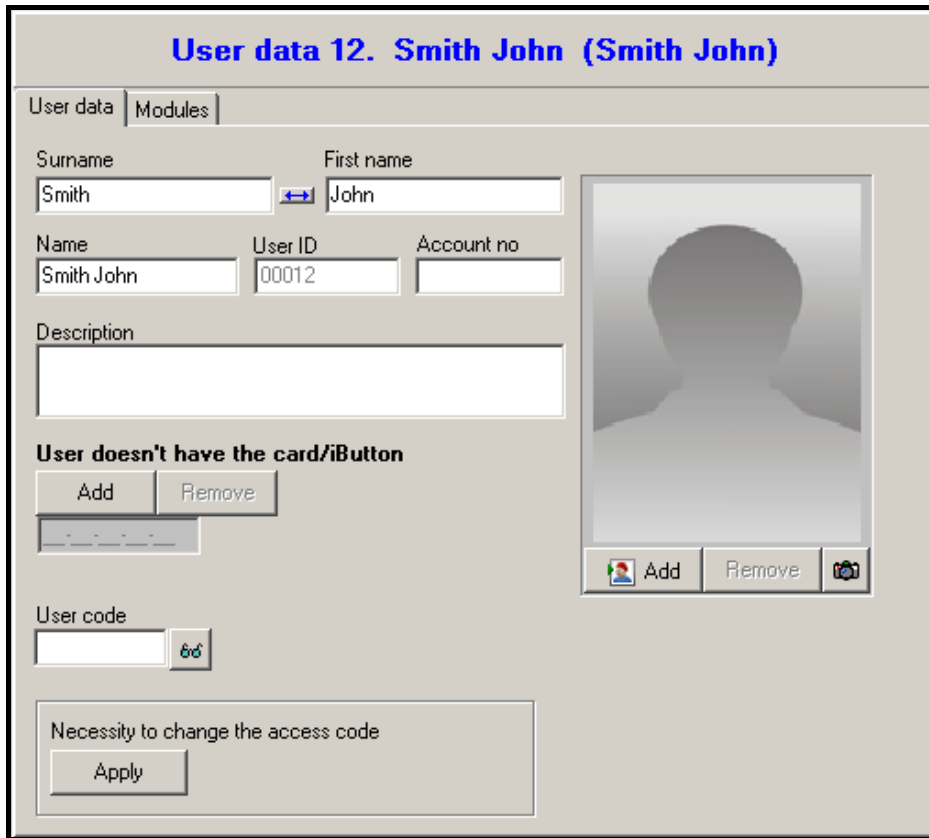

Fig. 26. User data tab in the USERS window.
7. Enter the last name, first name and display name of the user (16 characters) in the USER DATA tab. The display name will be created automatically after entering the user's last and first name, however it can be independent of them. The display name only is saved to the module. In the ACCO-SOFT-LT program, this name is displayed in brackets in the USERS window (see Fig. 26).